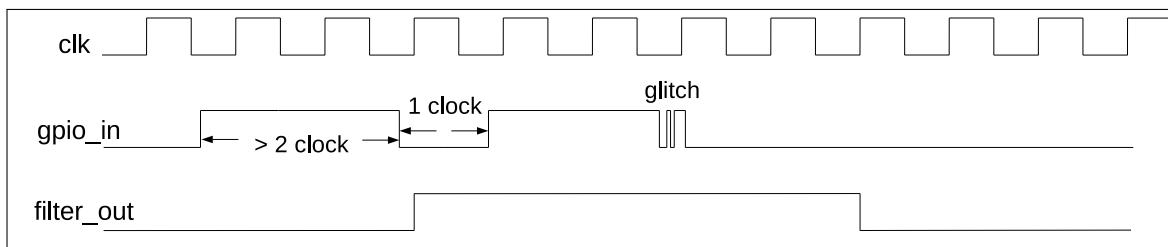

Figure 5-5. Filter Timing of GPIO Input Signals
2. Optionally enable the filter for pin input signals by setting the register `IO_MUX_GPIOn_FILTER_EN`. Only the signals with a valid width of more than two clock cycles can be sampled, see Figure 5-5.